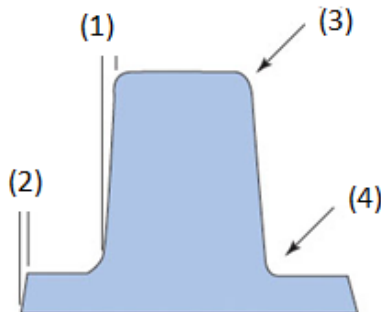

Figure 1[e]
- [e] **Assume you are designing a model of a cast part, label the features in Figure 1[e].**